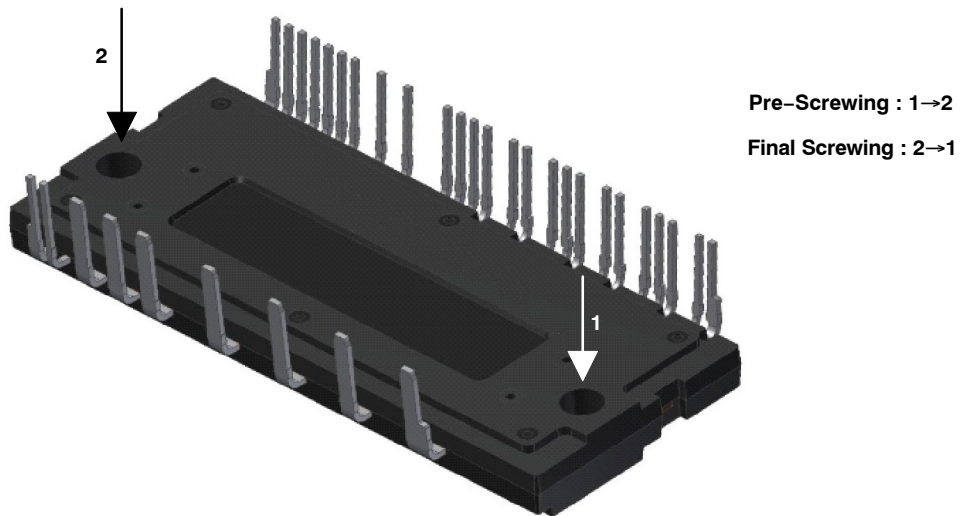

Figure 9. Mounting Screws Torque Order
- 13. Avoid one-sided tightening stress. Figure 9 shows the recommended torque order for the mounting screws. Uneven mounting can cause the DBC substrate of package to be damaged. The pre-screwing torque is set to 20 ~ 30% of maximum torque rating.